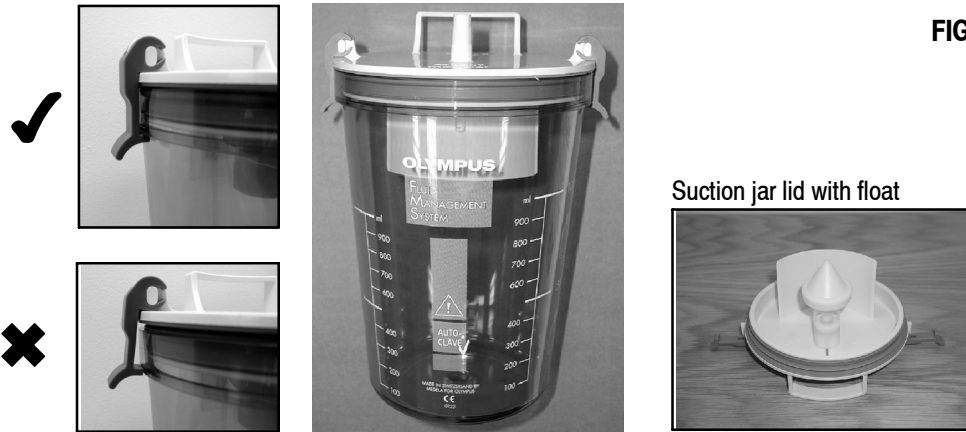

FIGURE 3-6
- (1) Push the float fully onto the vacuum spigot inside the lid (see Figure 3-6).
- (2) Position the suction jar lid with float mechanism onto the jar with the word PATIENT on the lid facing the front of the jar, then press the lid down firmly and secure the two fasteners, see Figure 3-6.